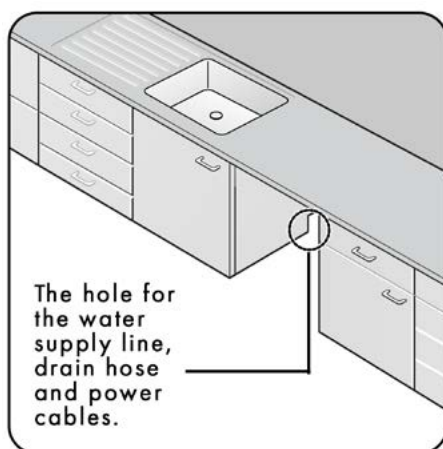

Figure 1-1
1. Using a hole saw, cut a hole into the side of the cabinet that holds the sink, as shown in Figure 1-1 below.